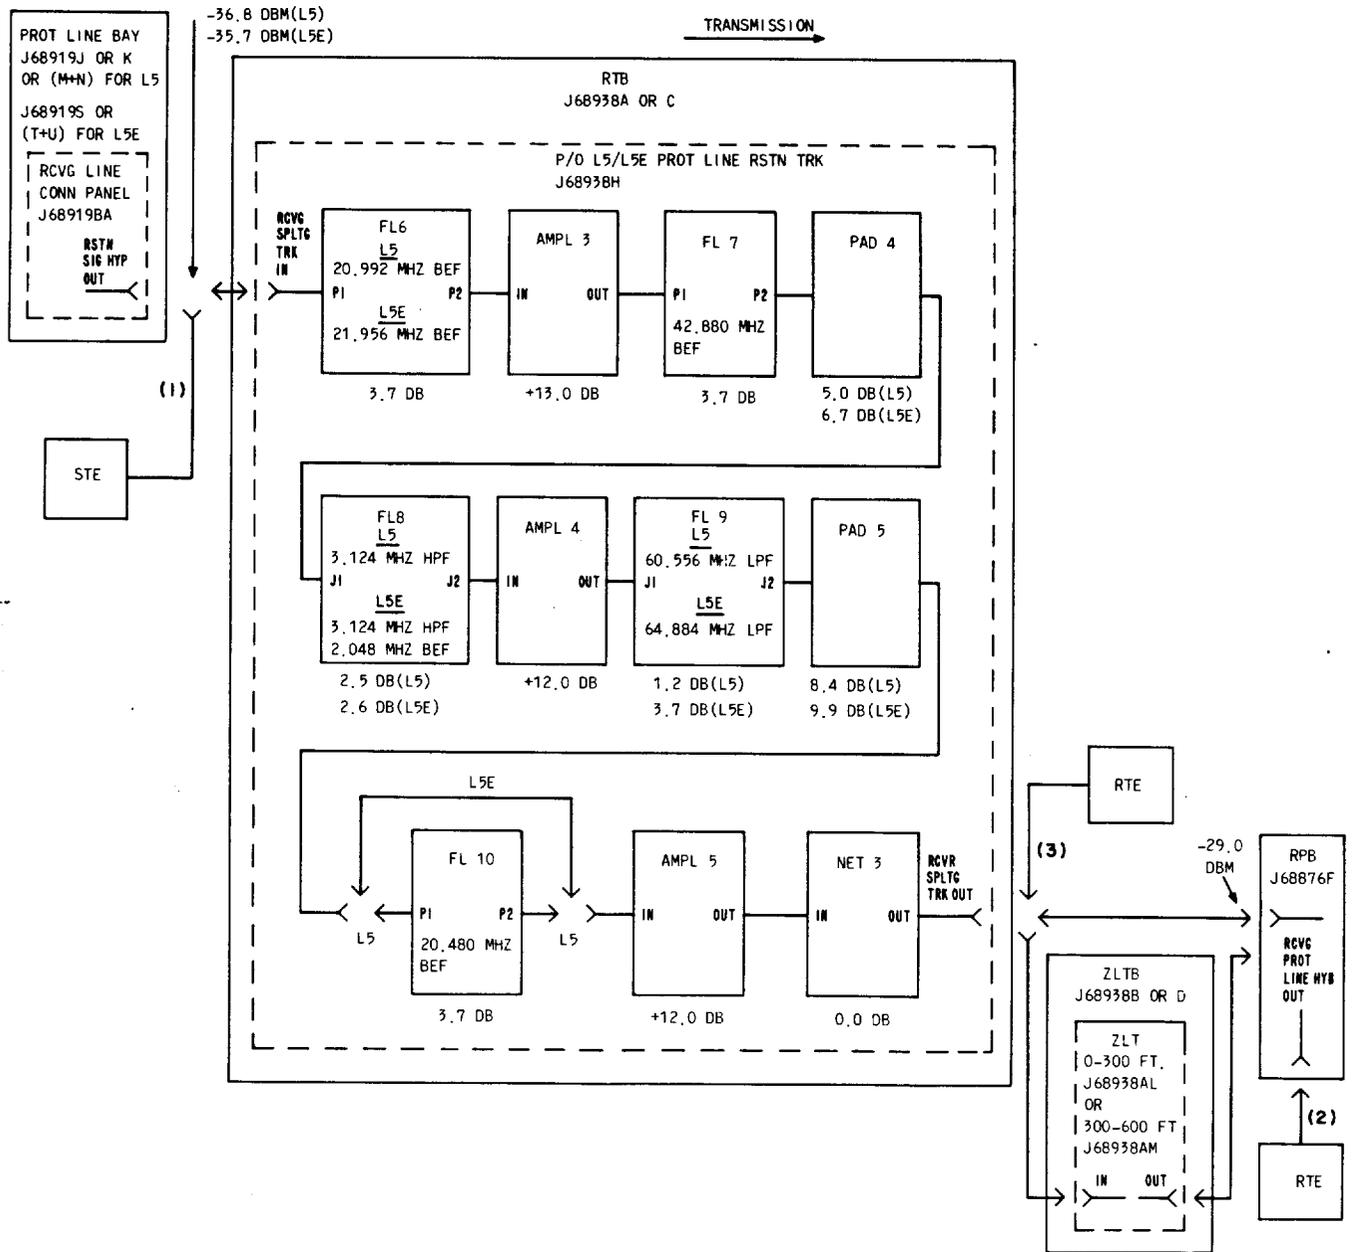

Fig. 10—L5/L5E Protection Line Receiving Splitting Circuit Out Restoration Trunk Circuit
4	By using office records, locate the RCVG LINE CONN panel of interest at the protection line bay and remove the cable from the RSTN SIG HYB OUT jack. Connect the STE to the cable [Fig. 10, patch (1)].
5	Connect the RTE to the RCVG LINE HYB OUT jack at the RPB [Fig. 10, patch (2)].
9	Move the RTE to the RCVG SPLTG TRK OUT jack at the RTB [Fig. 10, patch (3)].
- 18 If the requirement in Step 17 is met, move the RTE back to the RPB [Fig. 10, patch (2)], restore the coax to the RCVG SPLTG TRK OUT jack at the RTB, and go to Step 19; if otherwise, troubleshoot the trunk between the RTE and the STE and go back to Step 11.
57	Remove cable from the STE and restore in the RSTN SIG HYB OUT jack in back of the RCVG LINE CONN panel in the protection line bay [Fig. 10, patch (1)].
58	Remove the RTE from the RCVG PROT LINE HYB OUT jack at the RPB [Fig. 10, patch (2)].